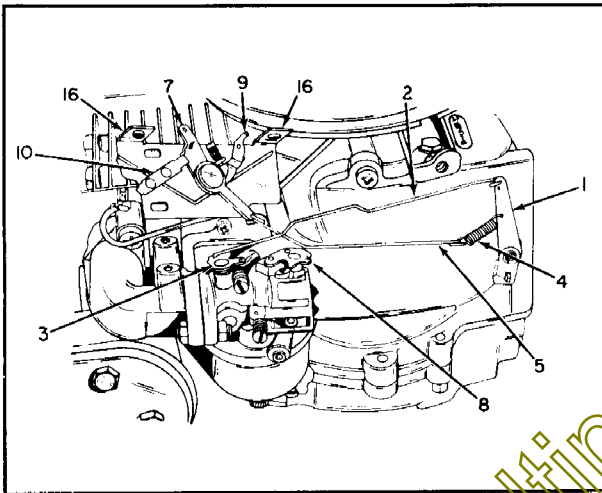

Figure 5-1
1. Install solid linkage between governor lever and throttle lever. Install linkage in top governor lever hole (Figure 5-1).
2. Install governor spring and linkage between control lever and lower hole in governor lever. (Figure 5-1)